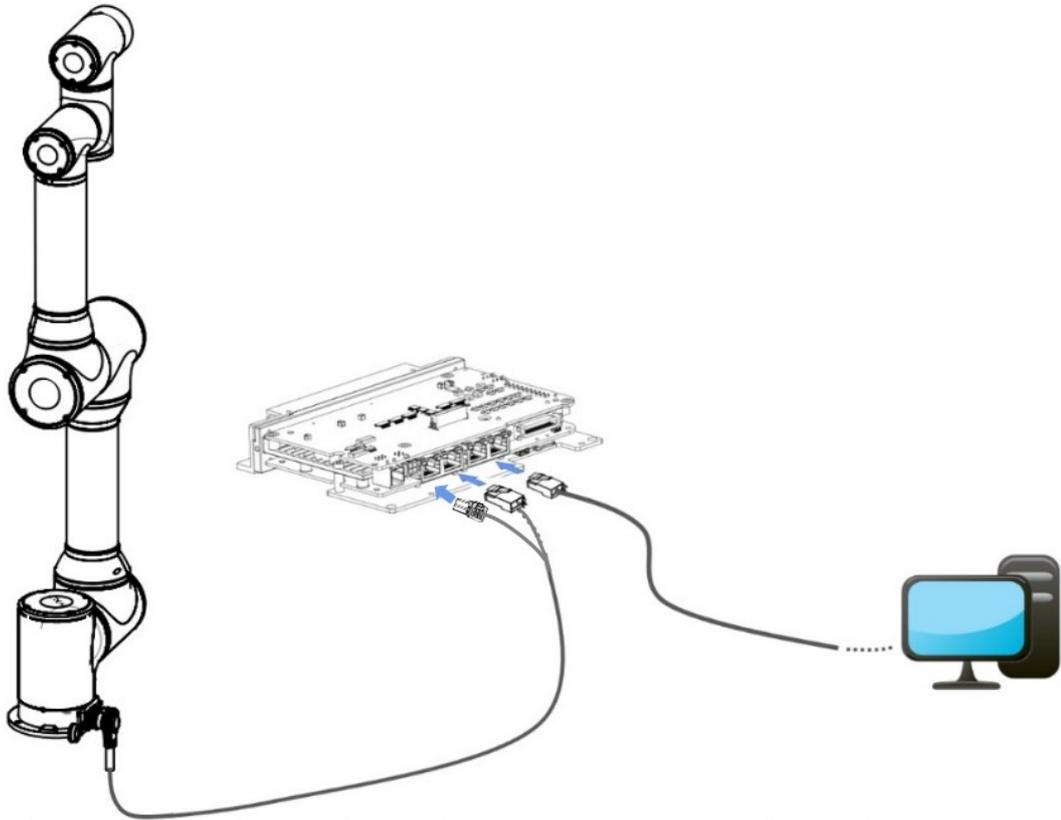

Figure 5-9 Communication cable installation diagram
Step 3 Plug the other end of "EtherCAT" into the "LAN2" interface of the robot controller, and the "CAN" into the "RS-232/CAN" interface of the robot controller, as shown in Figure 5-9.
Step 4 Prepare another network cable, connect one end of the network cable to the LAN4 interface of the controller, and the other end to the network interface of the PC or IPC, as shown in Figure 5-9.